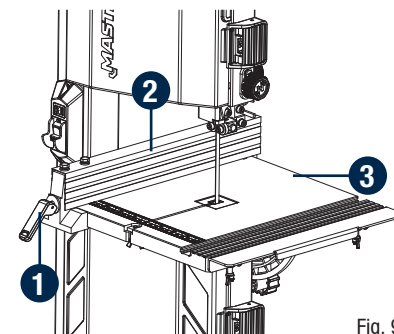

Fig. 9
**SETTING THE RIP FENCE ON THE WORK TABLE (Fig. 9)**
- Raise the fence locking lever (1) on the rip fence (2).
- Place the rip fence on the work table (3) so that the fence locking lever is at the front of the work table.